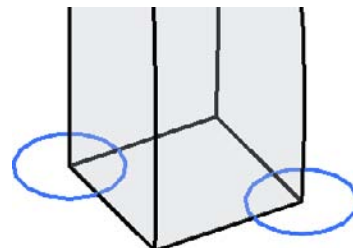

Figure 7.41
5. Select the right circle, expand the Create Form tool on the Form panel, and choose Void Form, as shown in Figure 7.41 (Click the lower half of the Create Form tool to expand the drop-down.)